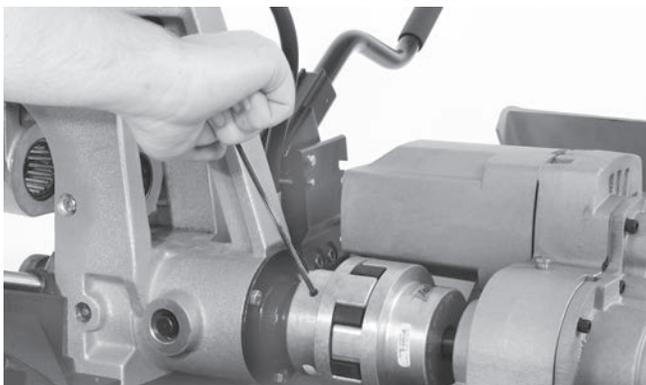

Figure 24 – Loosen the Two Screws on the Transmission Coupling
1. Use 3/16" hex key to loosen the two screws on the front half of the transmission coupling (Figure 24).
3. Use 3/16" hex key to loosen the two screws on the front half of the transmission coupling (Figure 24).